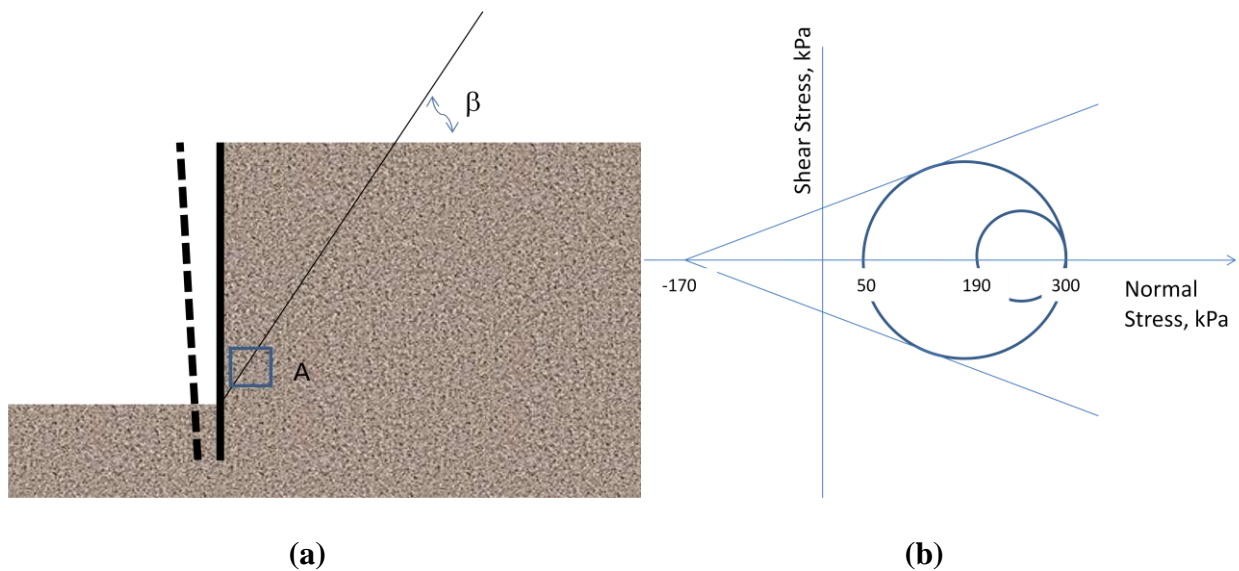

Figure 3
6. In Figure 3(a), the solid line represents a retaining wall when the retained soil is in stable condition. The dashed line represents the same retaining wall that has shifted away and caused failure to the retained soil. Water is not present in this problem. The Mohr Circles of Figure 3(b) describe the stresses involved by Unit A (shown by square box in Figure 3(a)). Determine: